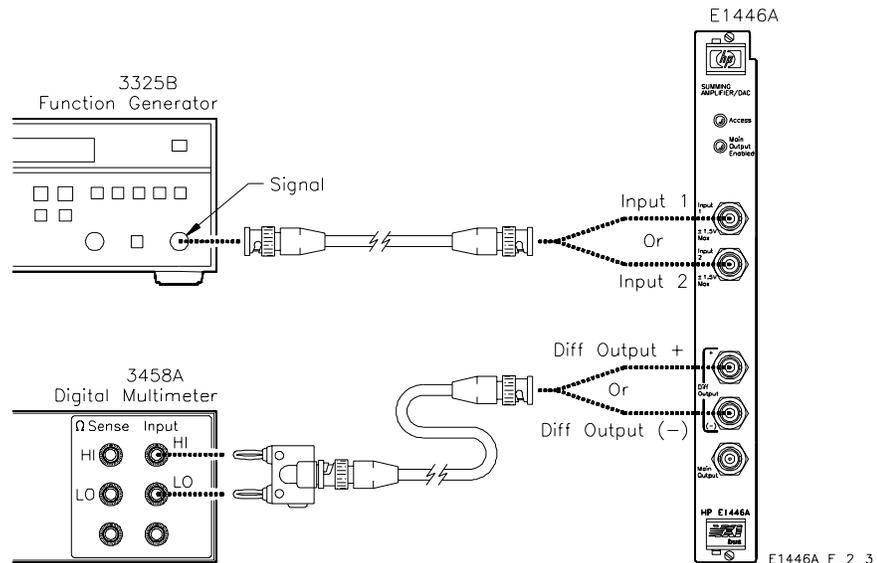

Figure 2-3. Low-level Outputs Test Setup
2. Connect the DMM to the amplifier output specified in Table 2-1 (see Figure 2-3).
3. Connect the Source to the amplifier input specified in Table 2-1 (see Figure 2-3).